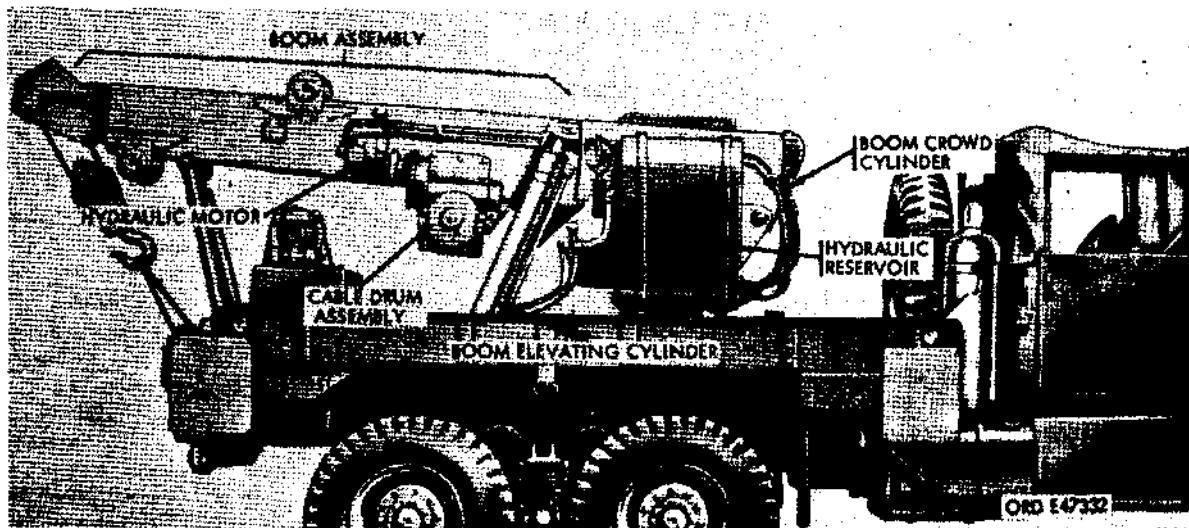

Figure 543. Crane and body assembly
e. Boom Assembly. The boom assembly (fig. 543) consists of the inner boom and outer boom which are telescoping tubular steel members having a rectangular shaped cross section, held together by the boom crowd cylinder. The rear end of the outer boom is pivoted on a pin which permits raising and lowering the front end of the boom assembly.
f. Boom Elevating Cylinders. The boom elevating cylinders (fig. 543) are vertically mounted on each side of the boom. These are single-acting types of cylinders whose pistons are extended by hydraulic pressure to elevate the boom. The pistons are retracted by the weight of the boom when the pressure is released.
g. Boom Crowd Cylinder. The boom crowd cylinder (fig. 543) is mounted horizontally inside the boom and shipper assembly. This is a double-acting ram and the piston works in either direction under hydraulic pressure to extend or retract the boom.
h. Boom Hoist Hydraulic Motor and Cable Drum Assembly. The boom hoist hydraulic motor and cable drum assembly (fig. 543) is bolted to the underside of the shipper assembly at the approximate middle. An automatic brake,
j. *Hydraulic Reservoir.* The hydraulic reservoir (fig. 543) is attached to the turntable frame. A bayonet-type oil level gage attached to the filler cap is installed in the top of the reservoir.